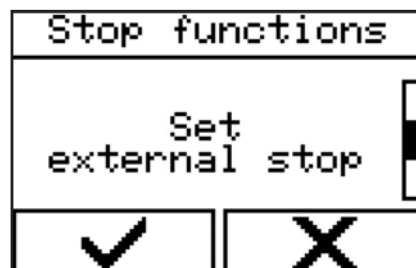

Figure 106 - Selecting a menu
1. Select the menu via 'Control' → 'Stop functions' → 'Set external stop' (Figure 106).